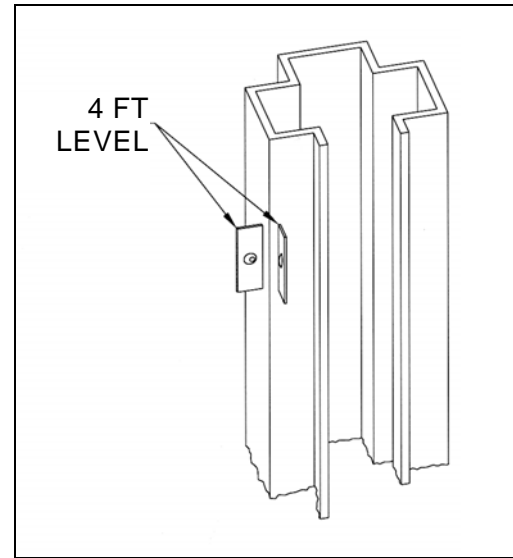

Figure 8. Post leveling
6. Use a 4' level, to level the posts. Refer to Figure 8.
NOTE: MAKE CERTAIN THAT THE CABLE RUNS BETWEEN THE WELDED GUIDE PIN AND THE GROOVE IN THE PULLEY AS SHOWN IN FIGURE 8.